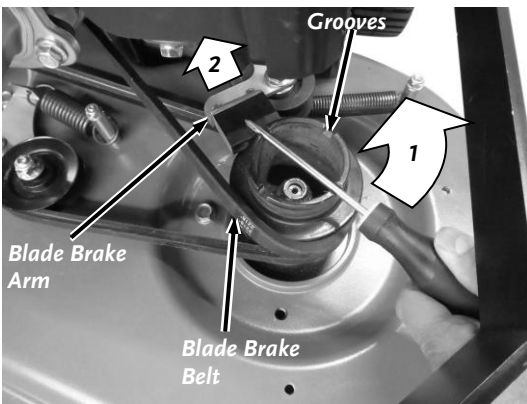

Figure 30
3. Remove the Blade Brake Belt from the Blade Pulley by rotating the Pulley with a Screwdriver (in slots) as you roll the Blade Brake Belt over the top of the Pulley (**Figure 30**).